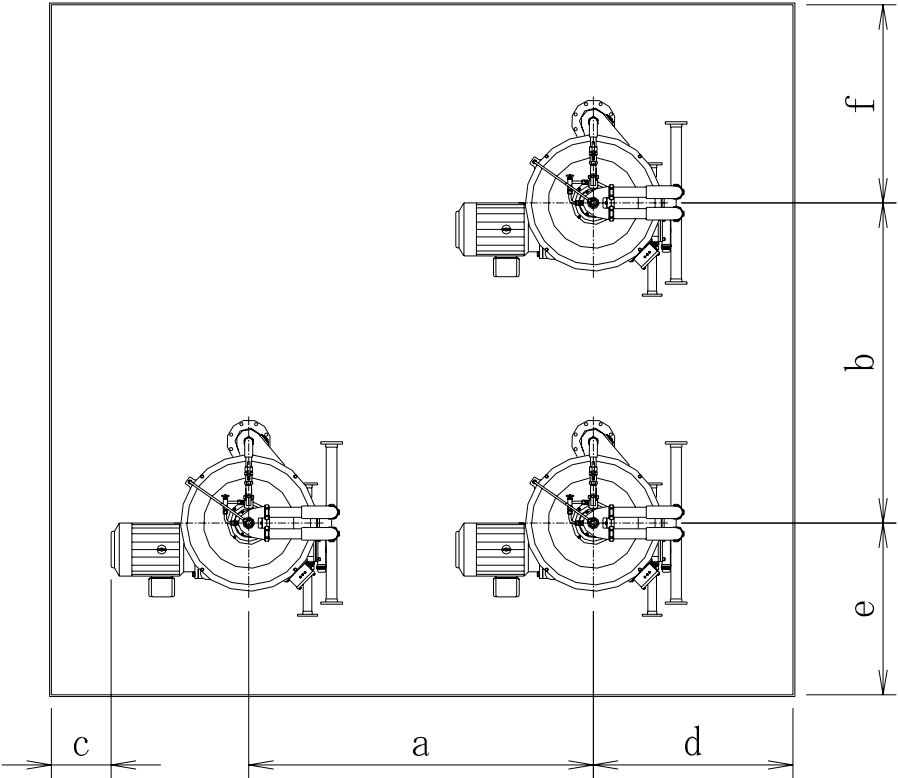

Fig 3-1
6. Provide enough space around the purifier to facilitate maintenance management. (Refer to Fig 3-1)
- 6 请在分油机的周围留出空间，以保证可容易地进行维护管理。（参照 Fig 3-1）
When two or more purifiers are to be installed on the same floor, space them a sufficient distance apart from each other so that all the parts can be easily checked. In addition, arrange them so that the operations can be easily performed. Fig 3-1, Table 3-1 shows the minimum dimension for installation spacing. (When one purifier is to be installed, space it the minimum dimension apart from the wall surface.)
安装间隔的最小尺寸如 Fig 3-1, Table 3-1 所示。